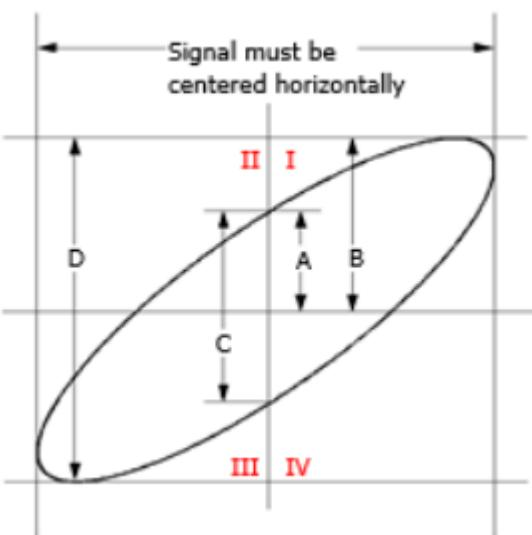

Figure 7.1 Measurement Schematic Diagram of Phase Deviation
4. Observing the measurement results in the above figure and based on the phase difference measurement principle diagram (Figure 7.1), it can be concluded that A/B (C/D)=1, that is, the difference angle between the input signals of the two channels is  $\theta=\pm \arcsin 1=90^\circ$